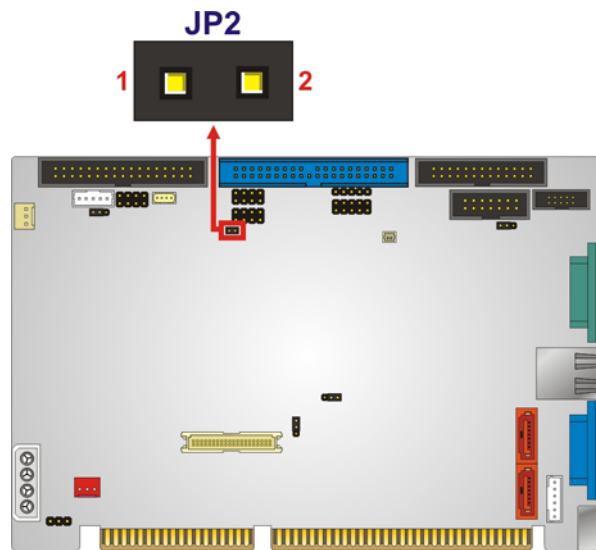

Figure 4-4: AT/ATX Power Select Jumper Location
- Jumper Location:** See **Figure 4-4**
The location of the AT/ATX Power Select jumper is shown in **Figure 4-4** below.